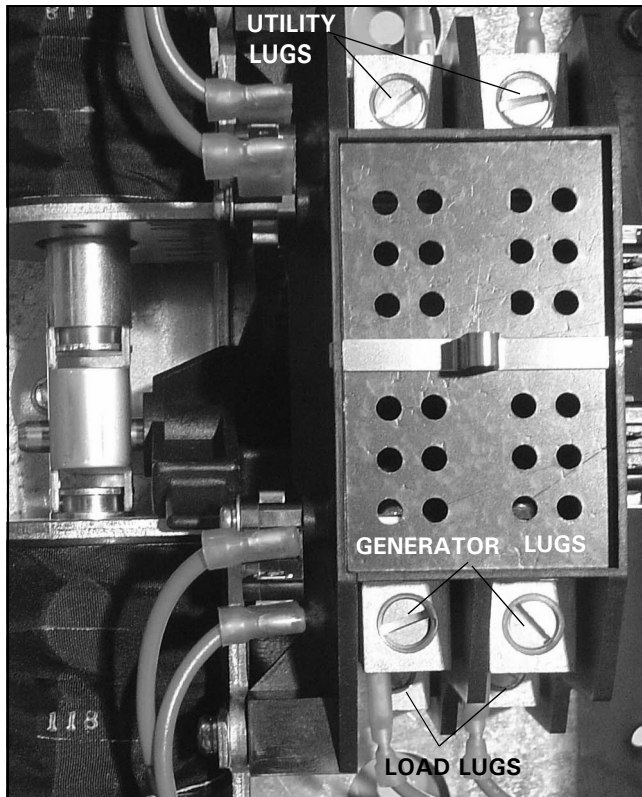

Figure 49. Replacing the 100 A Lugs.
Step 5: Remove the four (4) screws securing the contactor to the base plate using a blade screwdriver or 0.25 in. socket or nut driver.
Step 6: Remove the two (2) generator lugs and the two (2) load lugs using a blade screwdriver (see Figure 49).